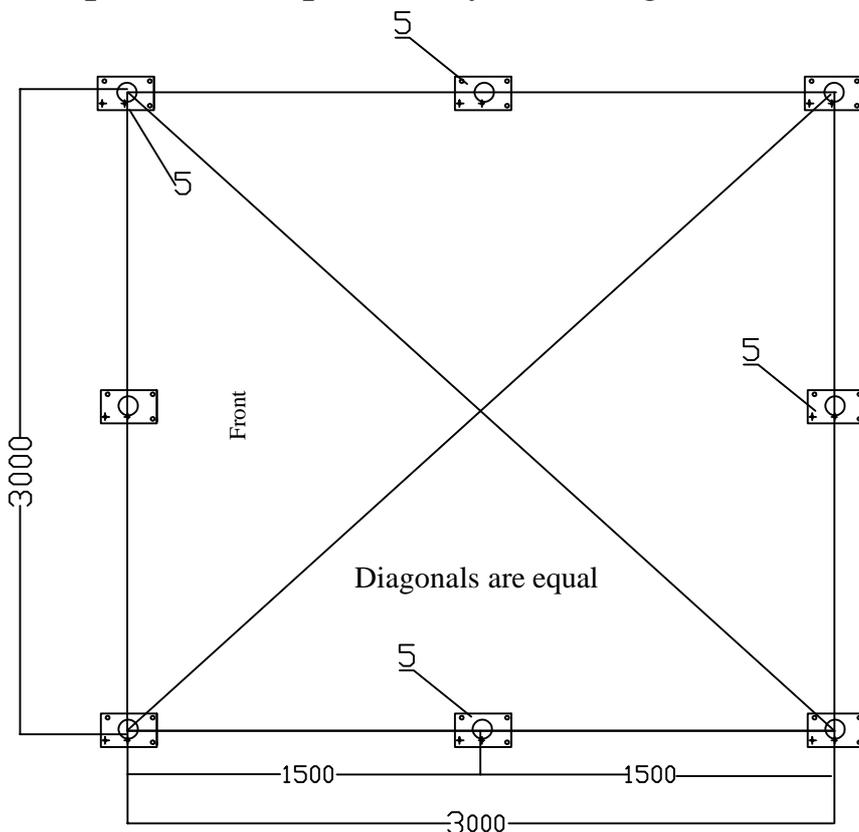

Figure 2 Position of Base Flanges
Begin by determining exact location of the four (4) corners of the building. Mark front edge and side-to-side width of assembly on ground. Drive alignment stakes into the ground outside of the markings, and draw alignment strings along both ends and sides of the building to the dimensions shown in Figure 2. The outline of the strings will represent the final location of the base flanges. The initial location of each Corner Base Flanges (5) is critical to the alignment and fit of the frame components and cover.
Locate the Left Corner Base Flange and Right Corner Base Flange(5). Secure the base flanges with Stake Pegs (Part #9). Measurements shown in Figure 2 are to the center of the upright sockets on each Base Flange. The Shelter must be secured to a firm surface that can receive and retain augers and pegs firmly in position. The shelter should be installed on FIRM GROUND, not on SWAMP, SOFT/WET GROUND. The Base Flanges must be secured so they cannot be moved. Arches are tensioned at their base as they insert into the Base Plate sockets.